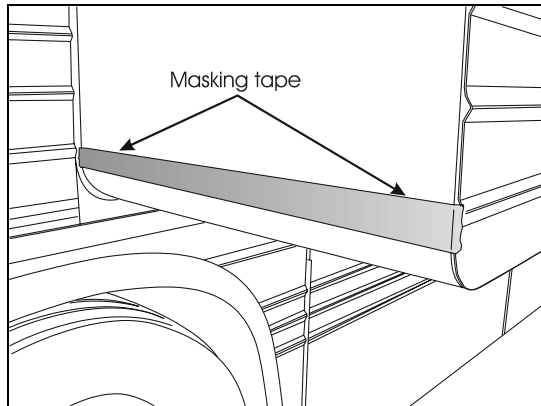
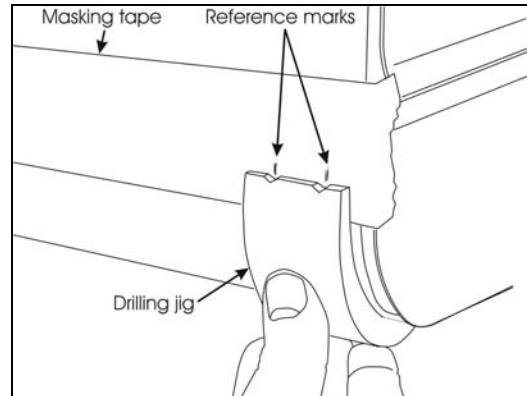
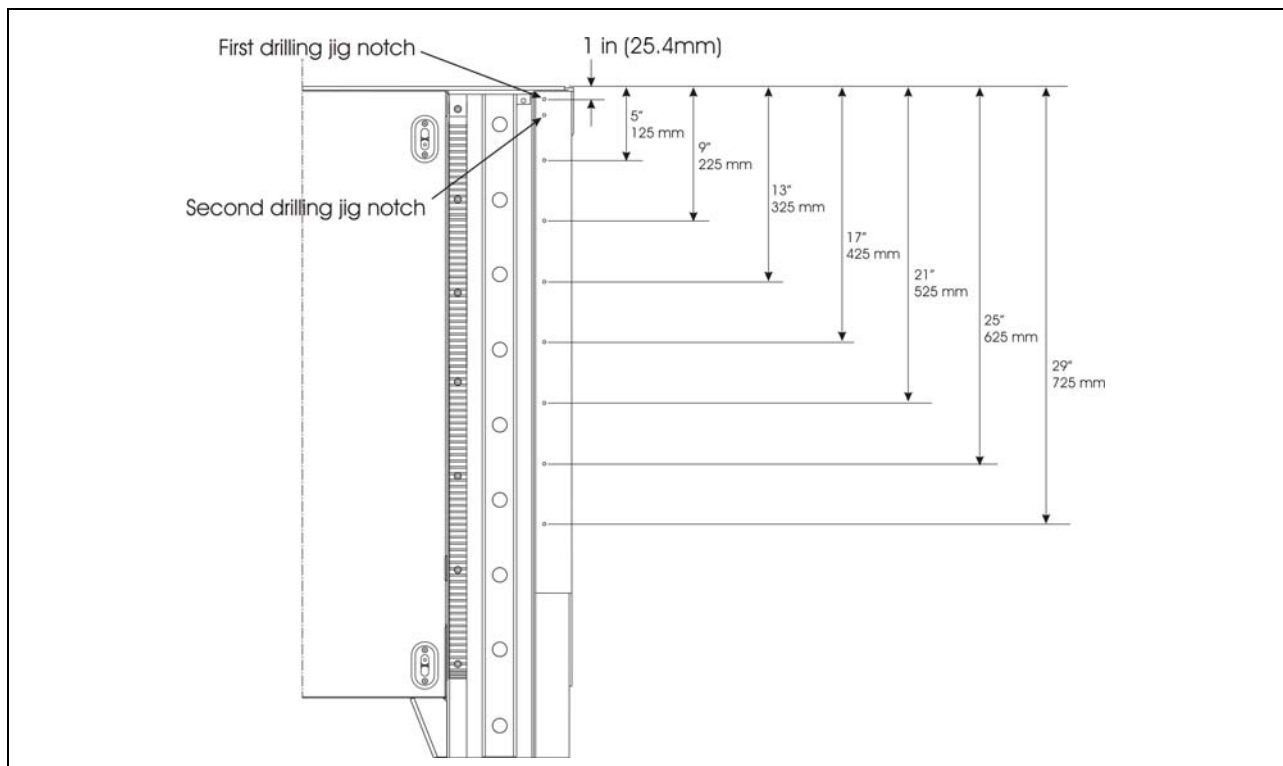

FIGURE 1: MASKING TAPE POSITON
FIGURE 2: FIRST & SECOND REFERENCE MARKS
FIGURE 5: DRILLING POSITIONS FOR FRONT & REAR SLIDE-OUT. SKIP 9TH & 8TH HOLE ON REAR SLIDE-OUT AND 9TH HOLE ON ENTERTAINER'S SLIDE-OUT. ALL DIMENSIONS ± 1/16".
2. Place a masking tape strip on the lower side of the slide-out as shown on figure 1. This masking tape strip will be used to mark drilling jig positional references (fig 2).
3. Using a pencil, mark the drilling positions on the masking tape using the drilling jig. Always measure from the slide-out face panel. Position the first reference mark 1 inch from the face panel. Position the second mark with the 2nd notch on the drilling jig (see figure 2). Position other drilling reference marks according to figure 5 (9 holes/side on the front slide-out, 7 holes/side on the rear slide-out). For the